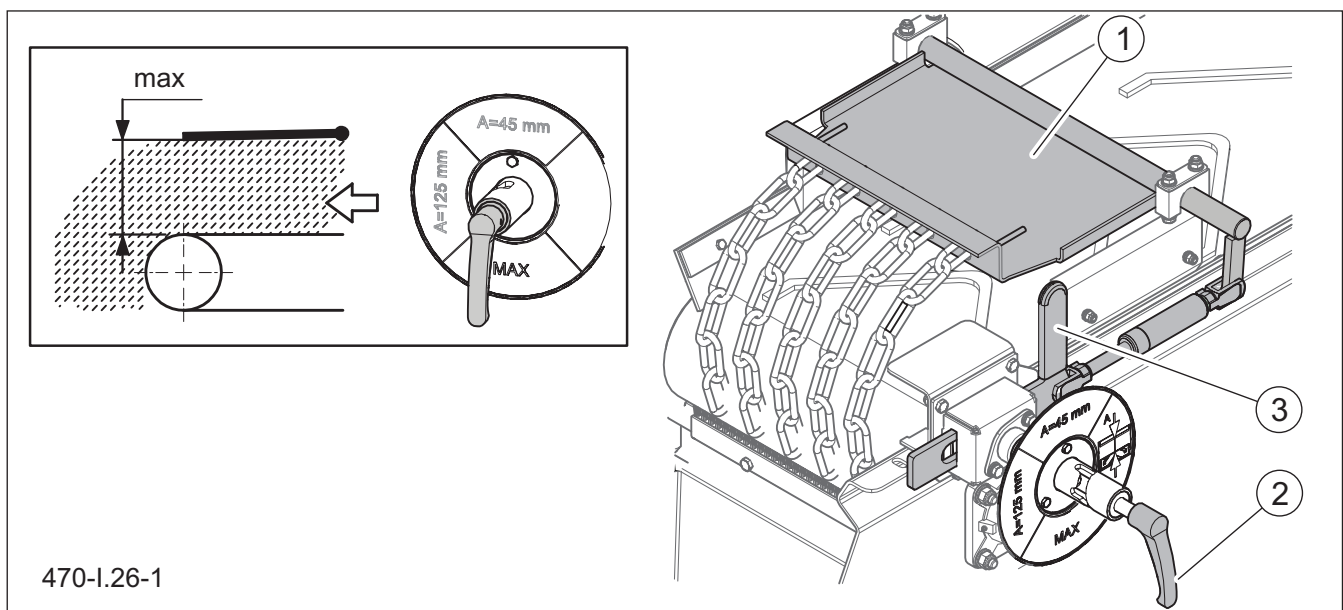

Figure 5.27 Setting the belt conveyor barrier for unloading
- set the belt conveyor barrier to maximally open position (Figure 5.27),
To raise the spreading mechanism for unloading (Figure 5.27) do the following:
- loosen clamp bolt (2),
- raise spreading mechanism (1) while holding grip (3), this will be indicated by the “Raised disc” indicator light on the control panel
- tighten clamp bolt (2).
To adjust the barrier (1) for unloading (Figure 5.27), turn and pull the bolt (2). The barrier is set to maximally open position only when material is being unloaded from the tank.